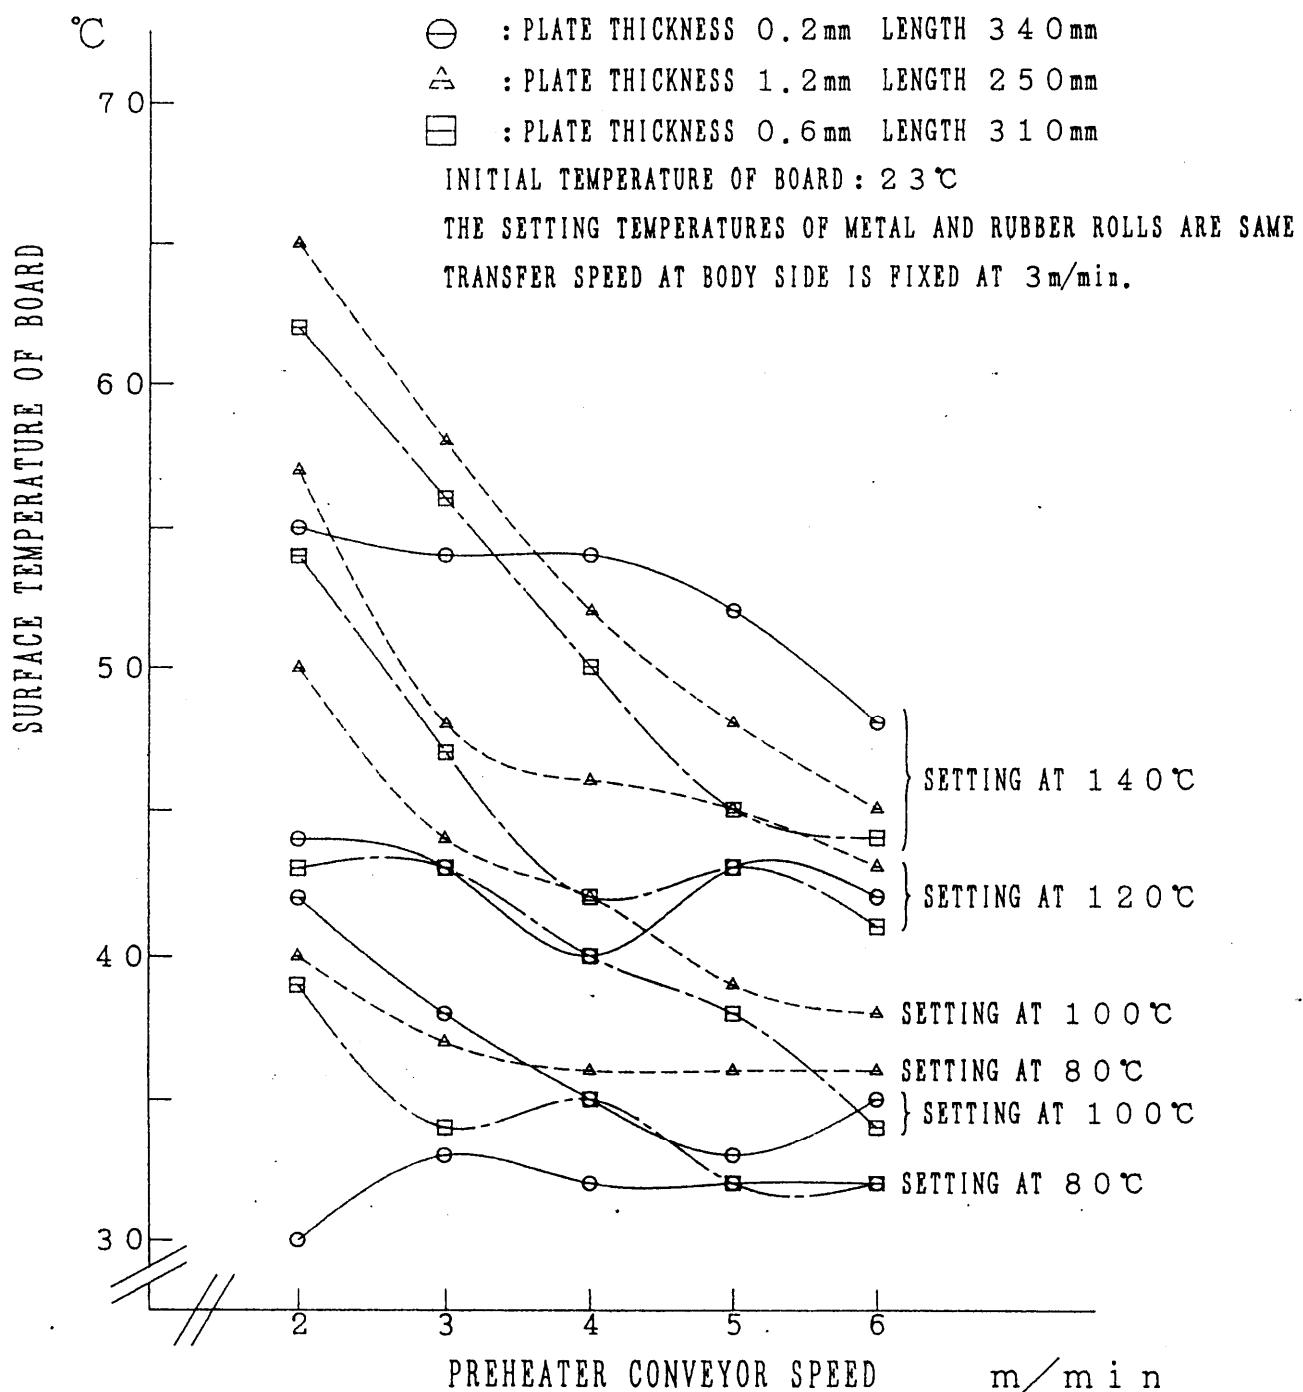

Fig.7-4. SURFACE TEMPERATURE OF BOARD
- (3) Referring to the temperature graph of Pre-Heaters (Fig.7-4), set the speed at it. At the sometime, check and confirm the setting of temperature.
- (4) If the body is operated, the Pre-Heater will start operation.
- (5) When the power switch is turned off, push the power OFF button switch in order to turn off the circuit breaker. (When the time switch rises, keep the breaker turned on.)